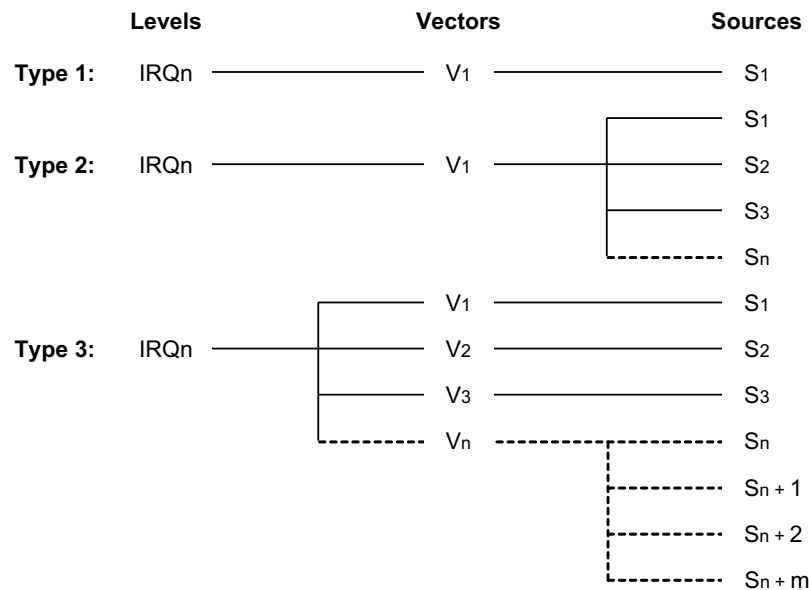

Figure 43. S3F8 Series Interrupt Types
In the S3F8S5A microcontroller, all three interrupt types are implemented; see Figure 43.
► **Note:** In Figure 43, the number of Sn and Vn values is expandable. In the S3F8S5A implementation, interrupt types 1 and 3 are used.